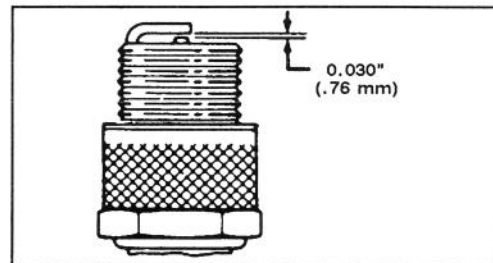

Figure 14
3. Set air gap at 0.030" (0.76 mm) (Fig. 14). Install correctly gapped spark plug and gasket seal. Tighten plug firmly to 15 ft-lb (20.4 N·m).